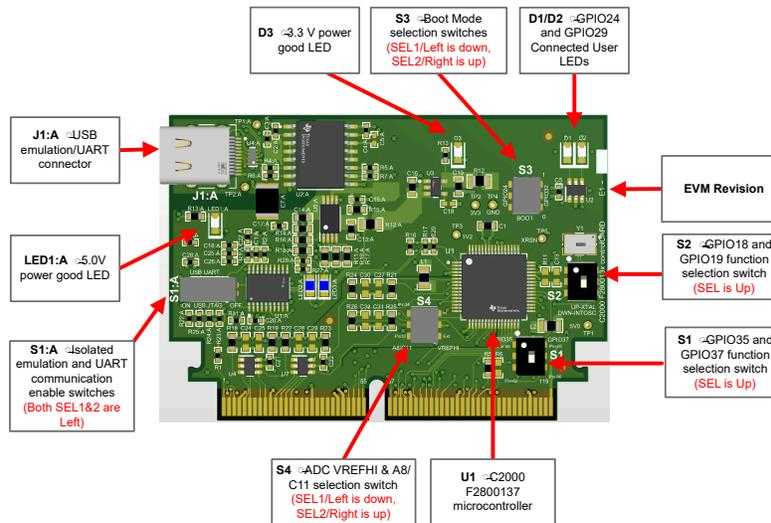

Figure 3-6. F2800137 controlCARD and Switches Setting
- Make sure that switches on TMDSCNCD2800137 are set as described below shown in Figure 3-6.